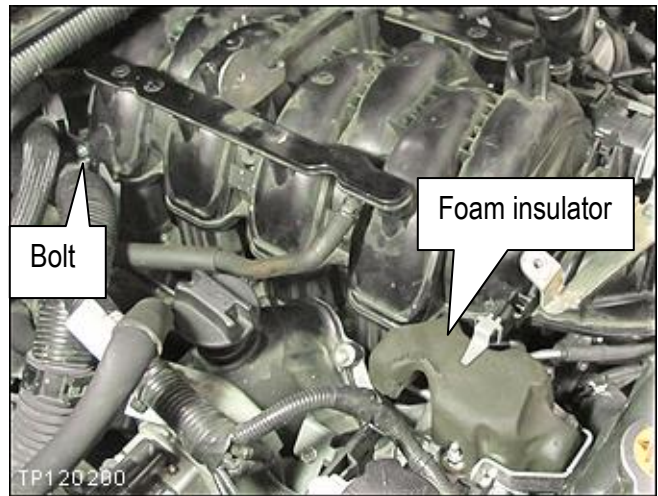

Figure 6
12. Remove the harness bracket mounting bolt (passenger side of engine) shown in Figure 6.